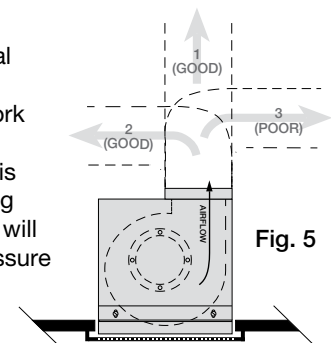

Fig. 5
Installation of ductwork is critical to the performance of the fan, shown in Fig. 5. Straight ductwork (1) or ductwork that turns in the same direction as the wheel (2) is recommended. Ductwork turning opposite the wheel direction (3) will cause turbulence and back pressure resulting in poor performance.